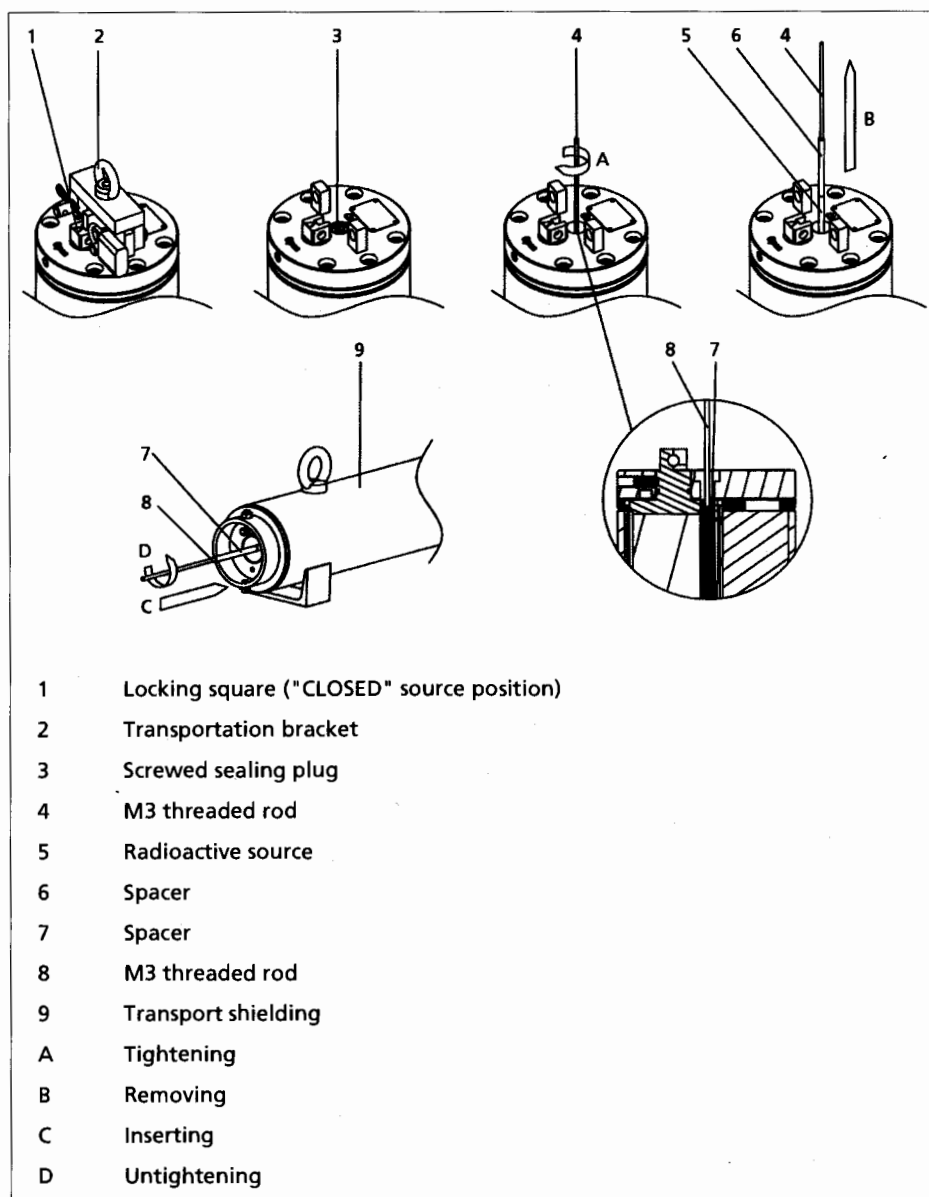

Fig. 15 Removal of the radioactive source from a Operation shielding
5. Screw the M3 threaded rod (Fig. 15, pos. 4) into the upper part of the source spacer of the old source (Fig. 15, pos. 6), and carefully extract the source from the operation shielding (Fig. 15, pos. B).
7. Grip the source with one pair of tongs and, with the other pair of tongs, unscrew the spacer (Fig. 15, pos. 7, D).
9. Unscrew the M3 threaded rod (Fig. 15, pos. 8) from the spacer.
16. Hold the spacer (Fig. 15, pos. 6) with one pair of tongs and unscrew the M3 threaded rod (Fig. 15, pos. 8) with the other pair of tongs.
18. Attach new Teflon sealing tape to the screwed sealing plug (Fig. 15, pos. 3).